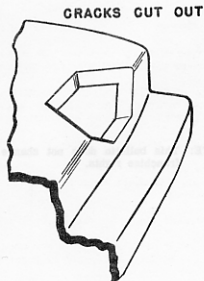

FIG. 9
- b. If the prepared area penetrates through the body panel (Figure 9), follow repair operations in part 2, "When Pieces Are Not Recovered" under "REPAIR OF HOLE IN BODY".